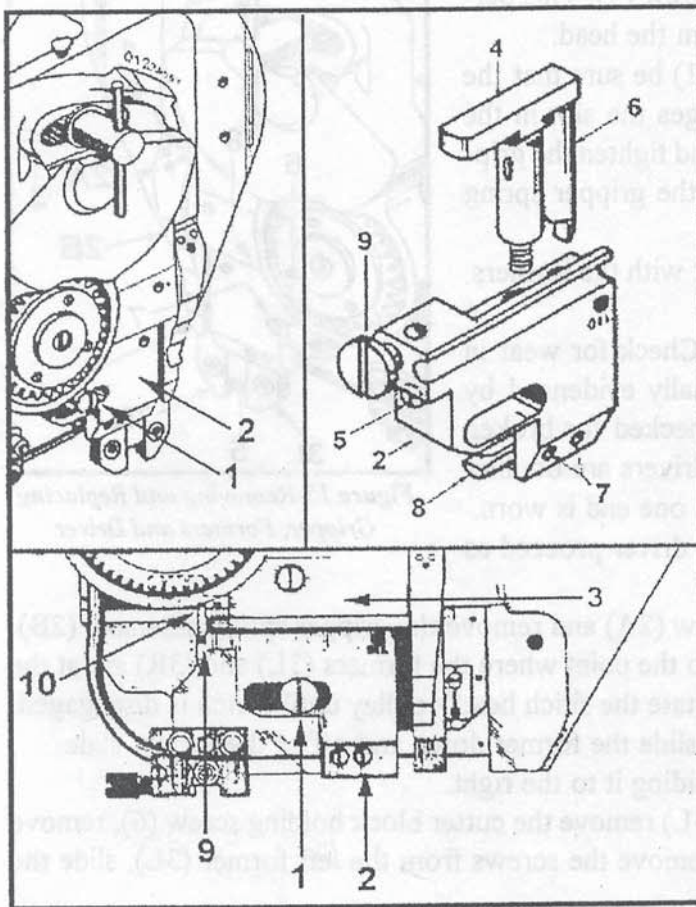

Figure 14-Removing and Replacing
D. MOVABLE CUTTER (See Figure 14)-The cutting edge of the movable cutter should be periodically checked for sharpness. A dull cutter can be resharpened but eventually must be replaced.